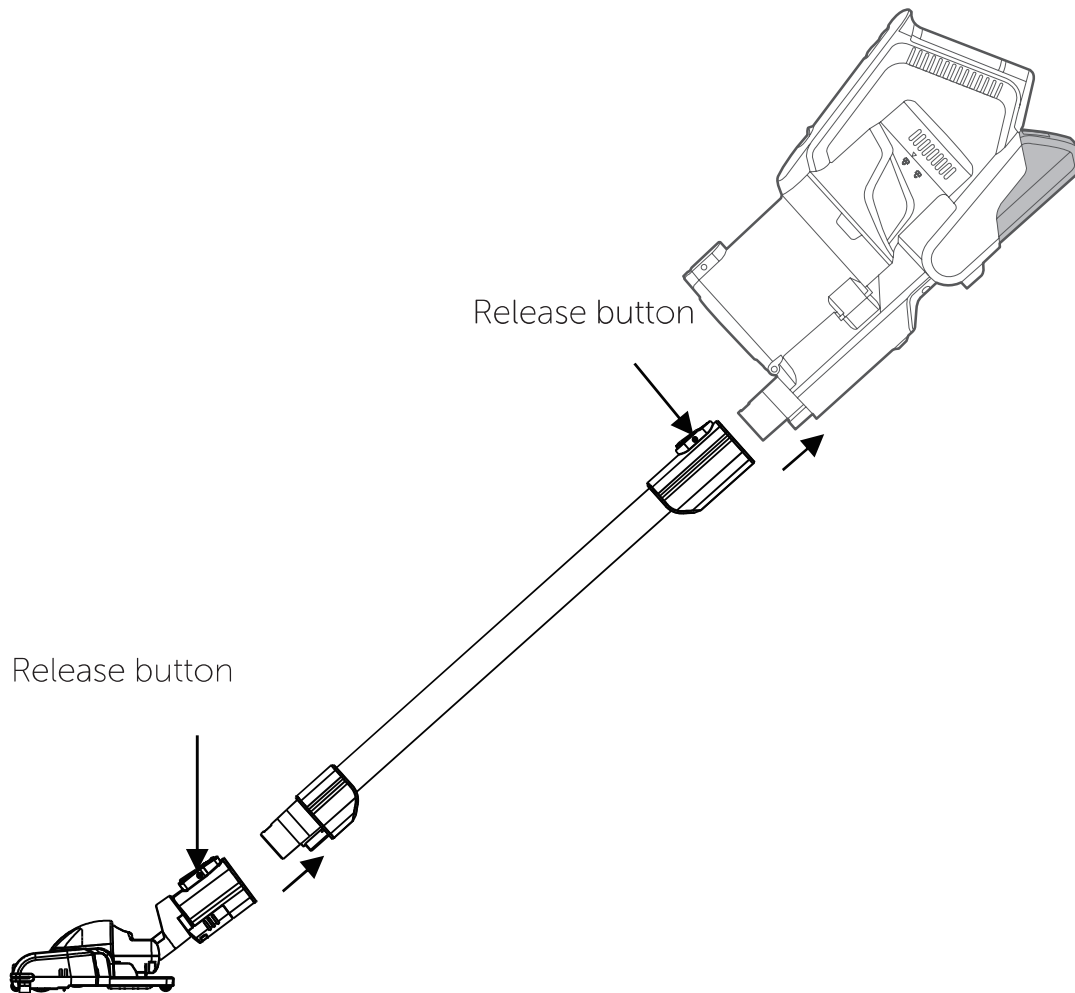

Fig. 8
1. Insert the extension tube onto the body of the vacuum as shown (fig. 8) and push to secure, a click will be heard.
2. Push the floor head onto the extension tube (fig. 8), a click will be heard. The crevice nozzle and combination nozzle can be fitted in place of the floor head.